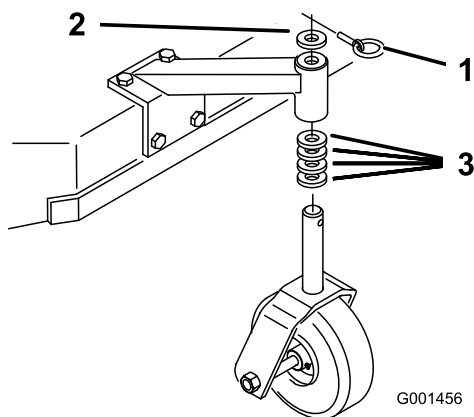

**Figure 18**
1. Remove the hairpin cotter pins and clevis pins from the drive levers and neutral locks (Figure 18).
5. Adjust the control rod length by rotating the control rod in the rod fitting (Figure 18 and Figure 19).
6. Install hairpin cotter between drive levers and neutral locks and into clevis pins (Figure 18).